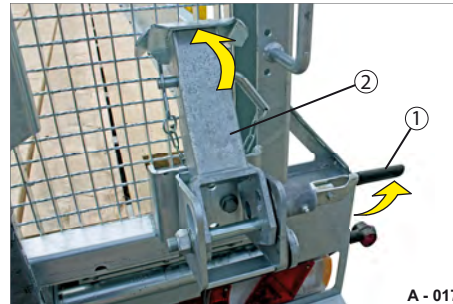

Fig. 7 Folding in folding support
- ▶ Pull the spring bar (Fig. 7/1) into a horizontal position.
- ▶ Fold up the folding support (Fig. 7/2) (horizontally) and lock it with the spring bar (Fig. 7/1).